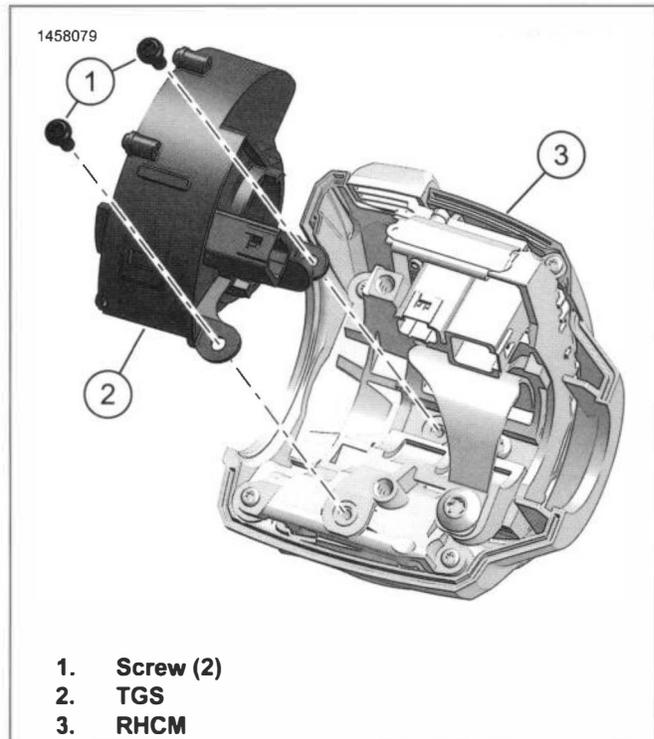

Figure 6-27. TGS (Typical)
1. See Figure 6-27. Remove TGS.
- a. Remove screws (1).
- b. Remove TGS (2) from RHCM (3).
1. See Figure 6-27. Install TGS.
- a. Position TGS (2) in RHCM (3).
- b. Install screws (1). Tighten.